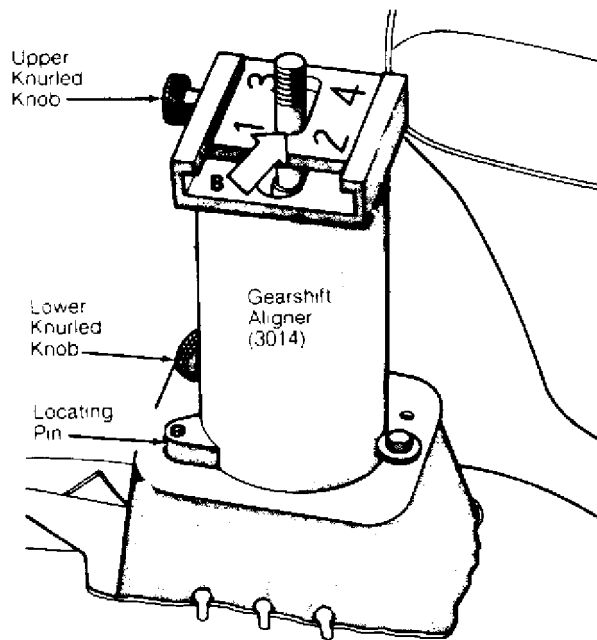

Fig. 5: Gearshift Aligner (3014) Installed On Fox
3) Align centering holes of gearshift lever housing and gearshift lever bearing housing. Tighten bolts. Install Gearshift Aligner (3014) with locating pin toward front of vehicle. See Fig. 5.